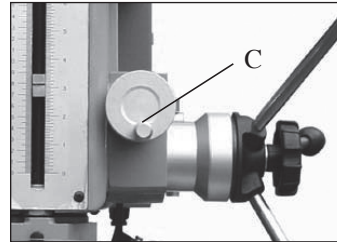

Fig. 6
1. Simply grab the handle(C-fig.6) on the hand wheel and turn.